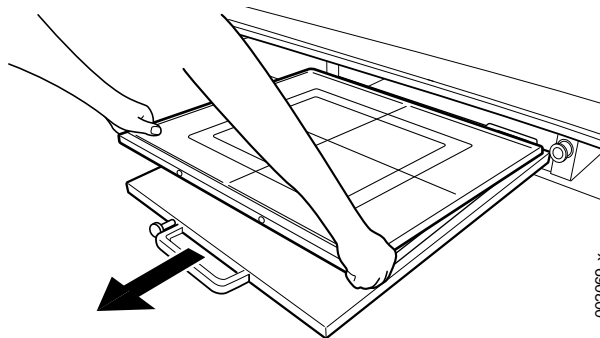

Fig. 4-78 Detector removal
2. Remove the detector by pulling it toward you according to **Fig. 4-78**.